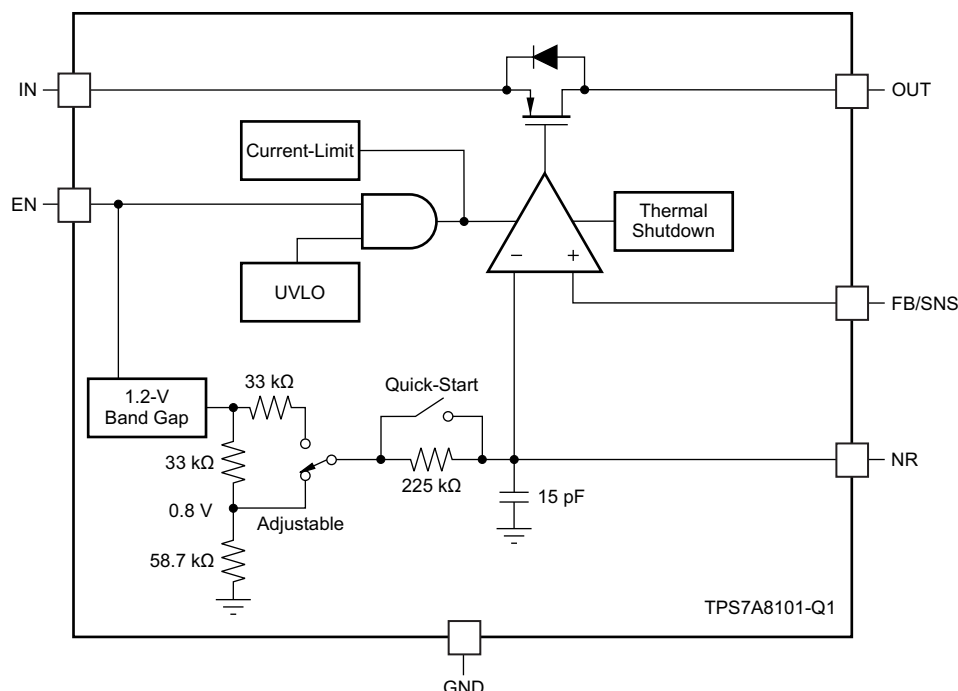

Figure 30. Functional Block Diagram
Through a lower resistance, the bandgap reference can quickly charge the noise-reduction capacitor ($C_{(NR)}$). The TPS7A8101-Q1 device has a *quick-start* circuit to quickly charge $C_{(NR)}$, if present; see Figure 30. At startup, this quick-start switch is closed, with only 33 k Ω of resistance between the bandgap reference and the NR pin. The quick-start switch opens approximately 100 ms after any device-enabling event, and the resistance between the bandgap reference and the NR pin becomes higher in value (approximately 250 k Ω) to form a very-good low-pass (RC) filter. This low-pass filter reduces the noise present on the reference voltage; therefore, reducing the noise on the output.